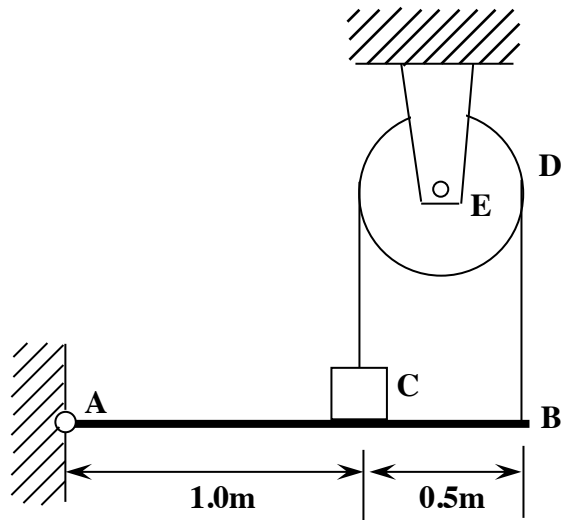

Fig. 7
- † 7. For the problem of Q4 in Examples paper 1 reproduced as Fig. 7 here, in which the uniform horizontal bar AB has weight 100 N and the block C has weight 250 N, find the shear force and bending moment at the midpoints of AC and CB.